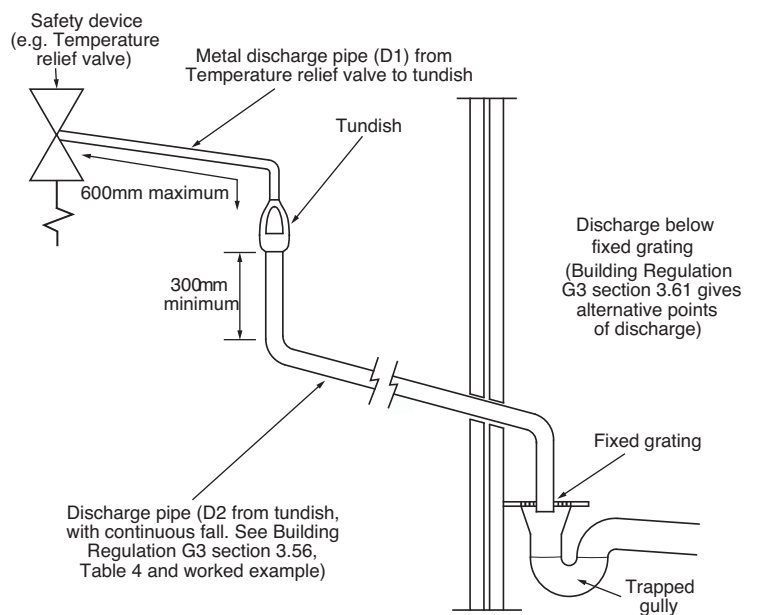

Fig. 8
**a. be at least one pipe size larger than the nominal outlet size of the safety device unless its total equivalent hydraulic resistance exceeds that of a straight pipe 9m long i.e. discharge pipes between 9m and 18m equivalent resistance length should be at least two sizes larger than the nominal Outlet size of the safety device, between 18 and 27m at least 3 sizes larger, and so on. Bends must be taken into account in calculating the flow resistance. Refer to Fig. 8, Table 1 and the worked example.**